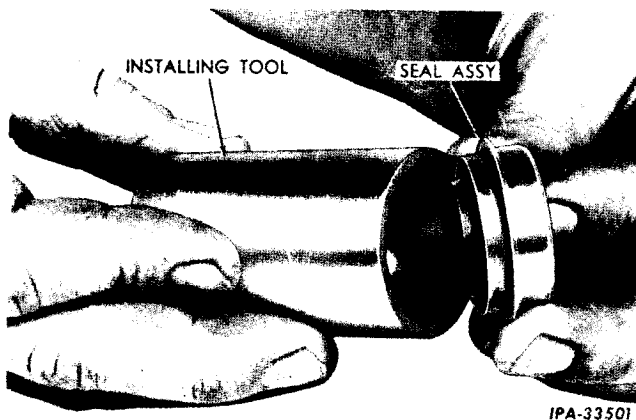
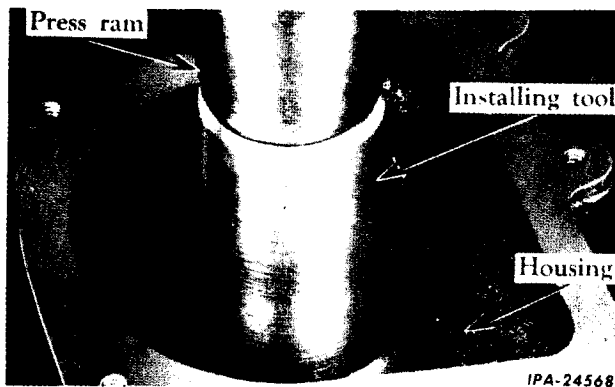

Fig 7 - Installing Tool for Water Pump Seal Assembly
Fig. 8 - Water pump Seal Installation
7. If the seal leaks or is damaged, replace the complete seal assembly. Carefully drive the seal from the pump body with a small soft drift. Place the new seal assembly on the installing tool (Fig. 7). Place the pump body in a press and, after aligning the seal and installing the tool (SE-1721), press the seal into the body (Fig. 8).